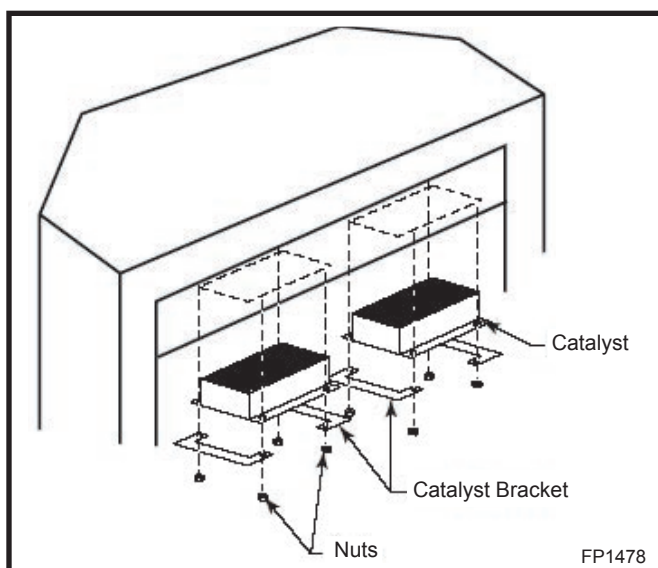

Fig. 23 Install catalyst and bracket in place, secure with nuts provided.
5. Install a catalyst up through one of the rectangular holes in the firebox top. (Fig. 23)
6. While holding the catalyst in place, slide the catalyst bracket over the studs and secure with the nuts provided. (Fig. 23)